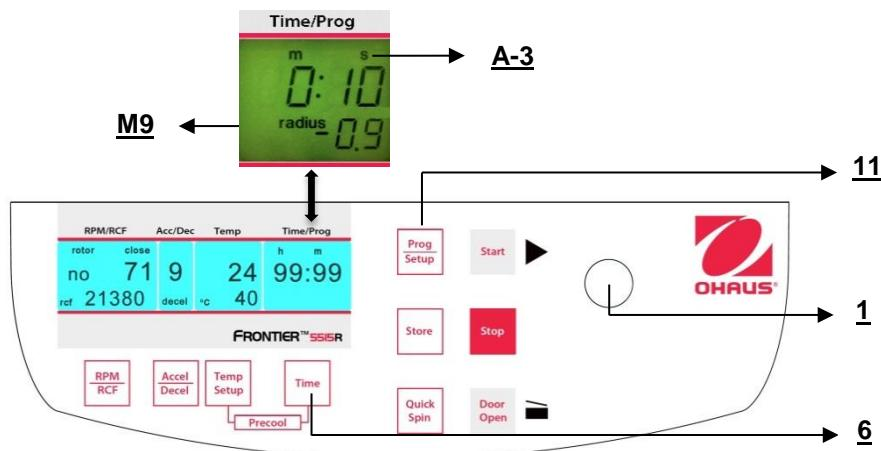

Figure. 21.
Close the lid, then press the key "Time" (6) (refer to figure 21) and the key "Prog/Setup" (11) at the same time and hold them.